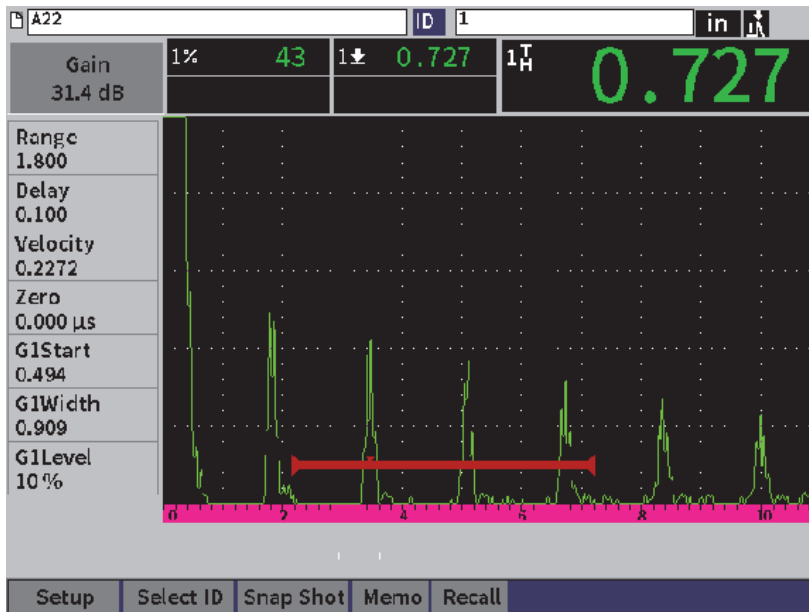

Figure 9-6 Saved file waveform
After you have saved data to a file, you can view the saved setup and waveform data. The waveform and basic setup parameters are displayed on one screen (see Figure 9-6 on page 130), and the complete setup information on another screen (see Figure 9-7 on page 131).
3. Press the Enter key to view the saved waveform and the basic setup data (see Figure 9-6 on page 130).